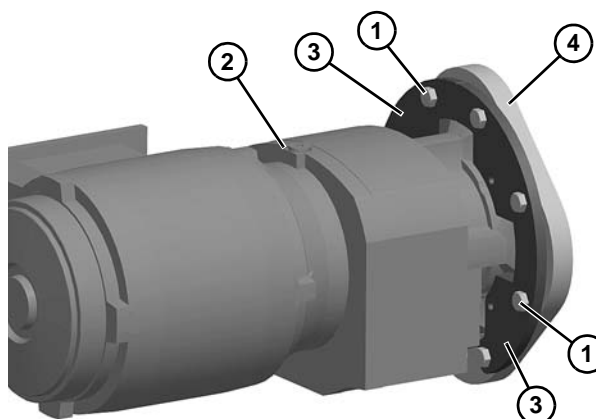

Figure 25
9. Remove eight screws (**Figure 25, item 1**). Remove gearmotor (**Figure 25, item 2**) and mount plates (**Figure 25, item 3**) from motor mount plate (**Figure 25, item 4**).